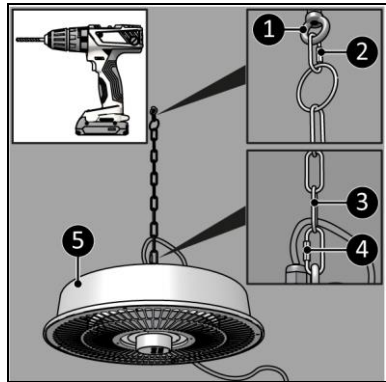

Figure 7
2. Place the key bolt with hanging eye in the hole (Figure 7, pos. 1).
3. Attach a karabiner hook (Figure 7, pos. 2) to the ring of the hanging chain (50 cm) and the key bolt with hanging eye (Figure 7, pos. 1).
4. Attach a karabiner hook (Figure 7, pos. 4) to the other end of the hanging chain (50 cm) (Figure 7, pos. 3) and the hanging eye of the device (Figure 7, pos. 5).
3. Attach a karabiner hook (Figure 7, pos. 4) to the hanging chain (Figure 7, pos. 3) and the hanging eye of the device (Figure 7, pos. 5).